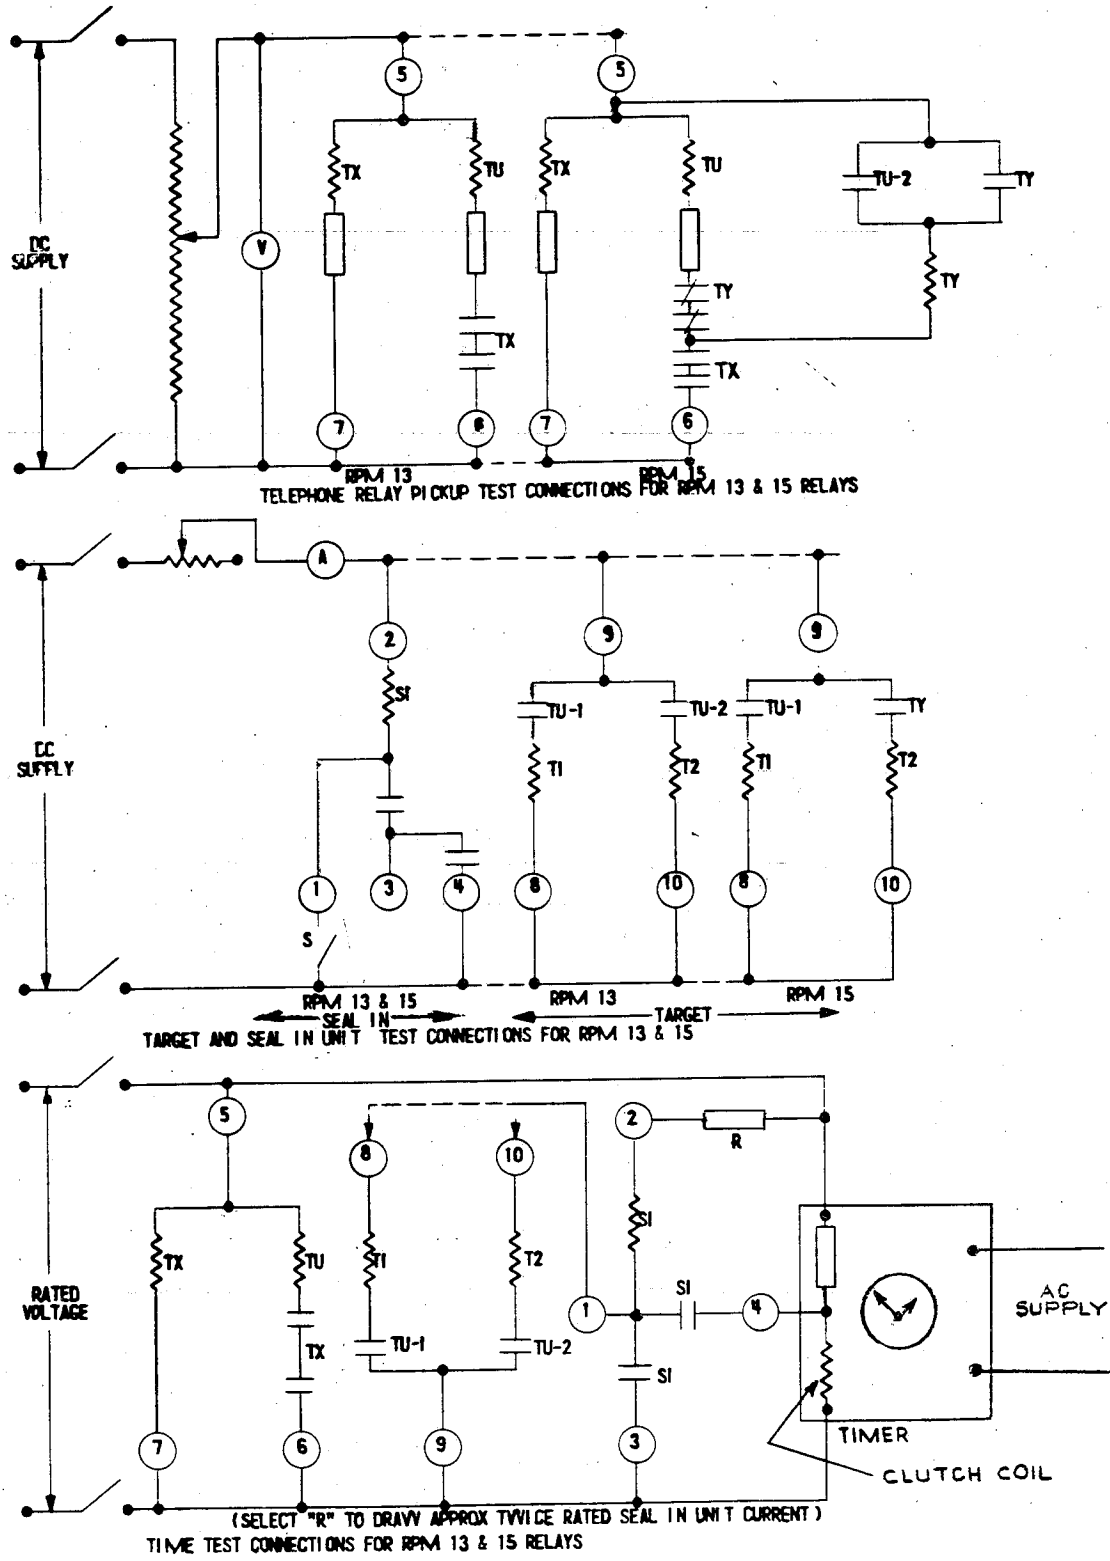

Fig. 7. (0148A3989-3) Laboratory Test Connection Diagrams For The RPM Relays Covered By This Book
Using connections shown in Fig. 7 the telephone type relays should pick up at 80% or less of rated voltage. When testing the RPM15 relays the normally closed contacts of the TY relay should be blocked open and the TU-2 (rear) contact should be closed manually. This is to prevent the operation of solenoid TU so that the regulation of the test circuit will be adequate to permit reliable test results.
Using connections shown in Fig. 7 check the targets and the seal-in unit pickup to confirm that they will operate on rated current or less. While making these tests the operating cams can be manually held in the proper position to keep the desired contact closed. When seal-in unit (SI) is picked up the opening of switch "S" should not de-energize this unit.